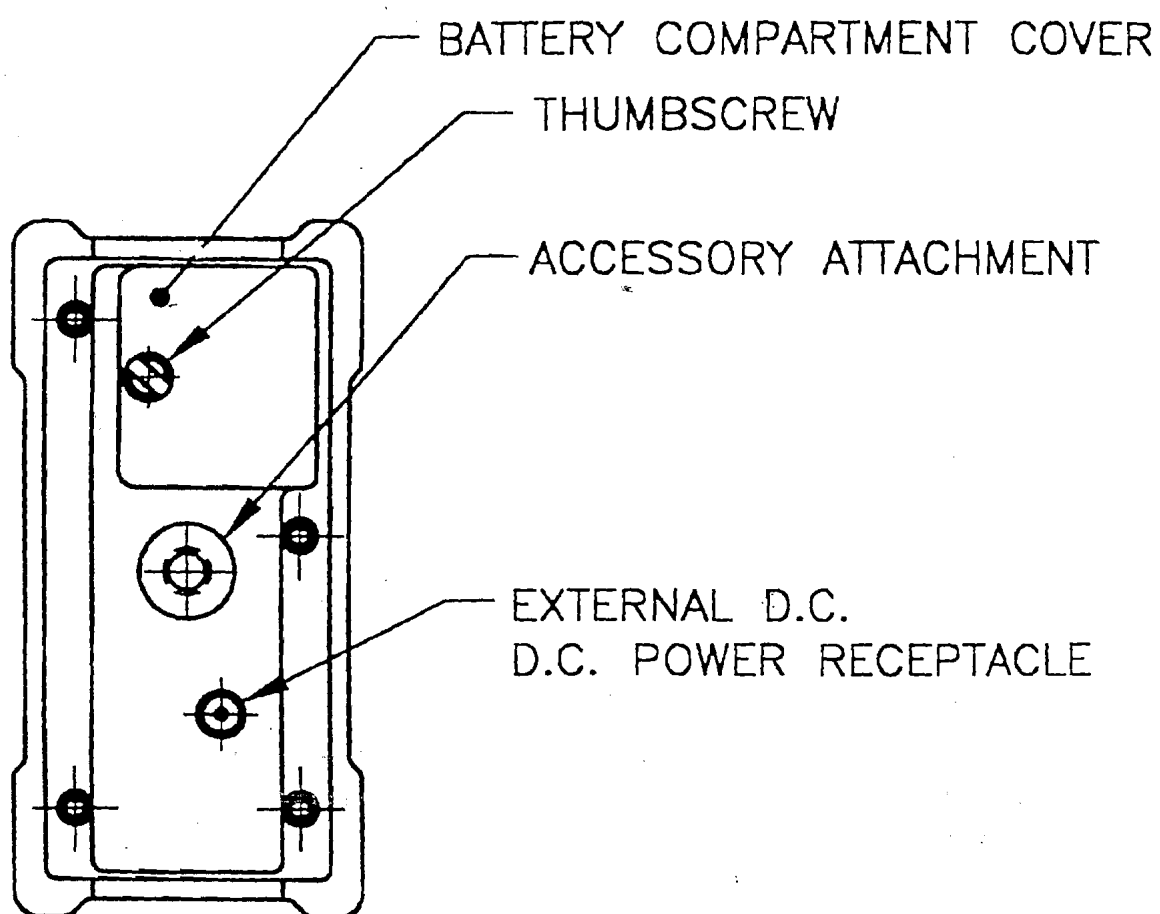

Figure 3 — BOTTOM BASE (MODEL pDR-1000AN)
- Tripod mounted. The unit can be attached to any standard tripod using the threaded bushing on the bottom of the monitor (see Figure 3).
Refer to Figures 3 (for model *pDR-1000AN*) or 4 (for model *pDR-1200*). The base of the *personalDataRAM* contains the following: a) internal battery compartment cover, b) external DC power input receptacle, and c) threaded bushing for the attachment of optional battery pack, tripod, or other mounting/support hardware.
- Loosen thumbscrew that secures the battery compartment cover (see Figure 3 or 4), and remove that cover.
A universal line voltage AC to DC power supply (MIE model *pDR-AC*) is provided as standard accessory with the *personalDataRAM*. This power supply can be used with any line with a voltage between 100 and 240 VAC (50 to 60 Hz). When using that power supply, its output plug should be inserted into the external DC receptacle at the base of the *personalDataRAM* (see Figure 3 or 4). Insertion of that connector automatically disables the internal 9V battery of the instrument. Removal of the *pDR-AC* plug from the instrument automatically re-connects the internal 9V battery.